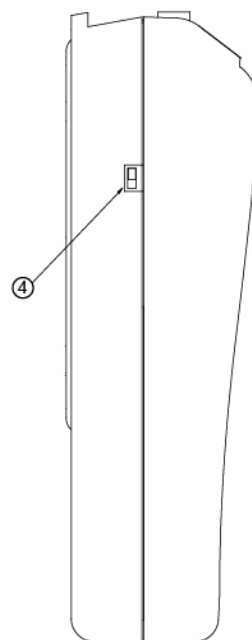

Figure 2
3. Place the main power switch (figure 2) to the ON position.